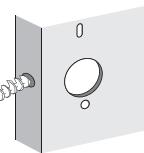

Figure 3d
- Drill 0.94" (24mm) hole in center of door edge for Deadbolt Assembly (Figure 3d).